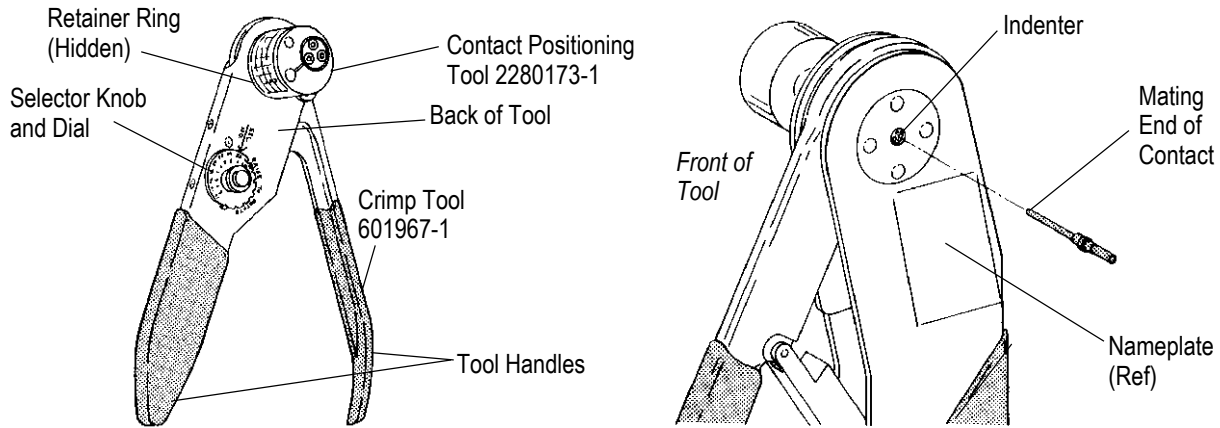

Figure 8
NOTE: Ensure that crimp tool is set according to wire size or corresponding tool selector number (“SEL NO.” on selector dial) as shown in Figure 8.
3. Insert the mating end of the contact (pin or socket) into the indenter from the front of the crimp tool (as shown in Figure 8). Align the crimp barrel with the four crimp anvils of the tool so that the crimp barrel wire entry protrudes slightly from the indenter to allow wire insertion.